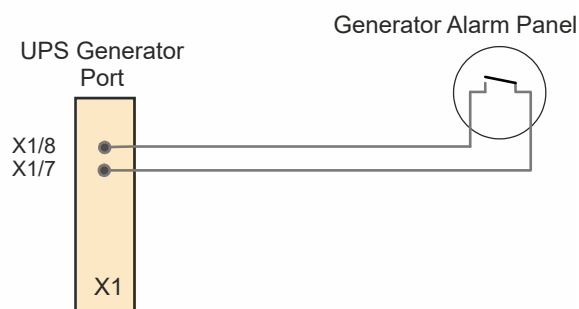

Figure 9.5 Generator ON Connection
2. Connect the cable as shown in Figure 9.5.